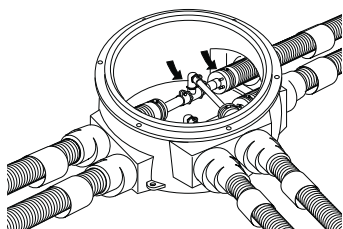

Figure 4-39: Final Connections
4. Insert all pipes into the Connection Vault and make all service pipe connections, as shown in **Figure 4-39**; then perform a pressure test.